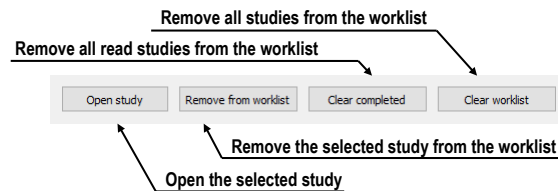

Figure 133 – Manage part of the Patient worklist tab
Your currently defined patient worklist is available at any time on the **Worklist** tab of the **Search studies** dialog. On the tab, you can select from the following operations (see Figure 133) pertaining to the patient worklist studies:
- Removing a selected study from the worklist (by clicking the **Remove** button, see Figure 133).